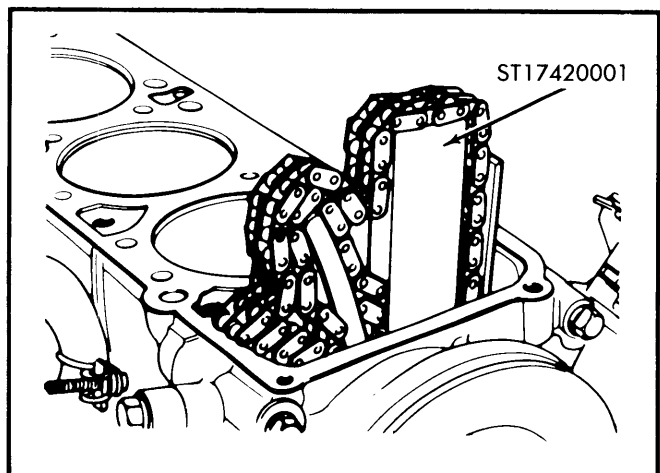

Fig. 1 Holding Timing Chain with Special Support Tool
2) Disconnect all hoses and vacuum lines from intake manifold to cylinder head or block. Remove intake and exhaust manifold as an assembly. Remove rocker cover and fuel pump drive cam. Turn crankshaft so No. 1 piston is at TDC on compression stroke. Paint alignment marks on timing chain and camshaft sprocket to aid in installation. Remove camshaft sprocket, and use suitable retainer tool (ST17420001) to support timing chain as shown in Fig.1 Remove cylinder head attaching bolts and remove cylinder head.